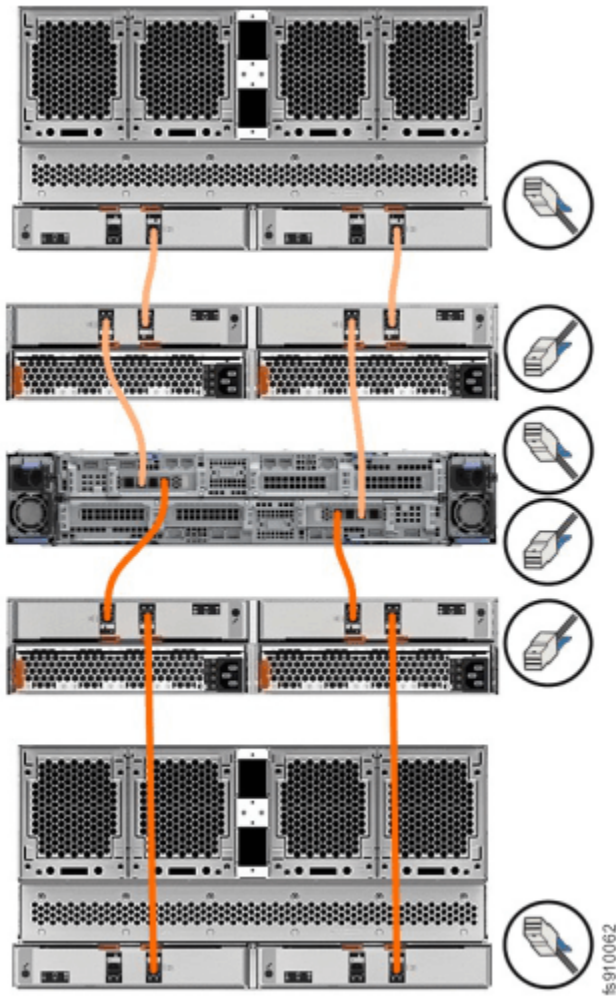

Figure 64. Connecting the SAS cables to control enclosure
- The FlashSystem models support 4-port SAS interface adapters. However, only ports 1 and 3 are used for SAS connections, as Figure 64 on page 97 shows.
- See “Enclosure location guidelines” on page 53 for the number and type of expansion enclosures that can be chained to SAS port 1 and SAS port 3 of a node canister. The expansion enclosures in this chain must be installed below the control enclosure (as shown in Figure 64 on page 97).
- Figure 64 on page 97 shows an example configuration of a control enclosure that is connected to two SAS chains.
- Figure 64 on page 97 is a generic cabling diagram intended to illustrate how to cable the different types of expansion enclosure. Some systems do not allow for a mixture of expansion enclosure types in the same chain. See Chapter 4, “Expansion enclosures,” on page 37 for details on the supported expansion enclosures for your specific system model.
Using the supplied SAS cables, connect the control enclosure to the expansion enclosure at rack position 1, as shown in Figure 64 on page 97.
To add further expansion enclosures, continue to connect the expansion canisters as shown in Figure 64 on page 97.